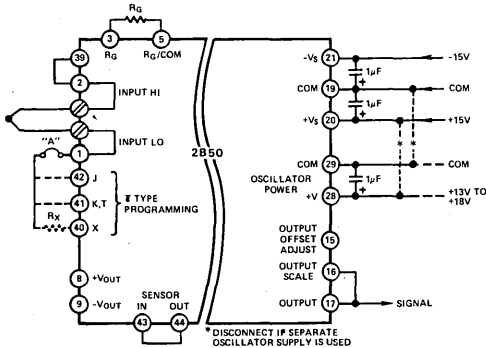

Figure 2. Basic 2B50 Application
The connections shown in Figure 2 are common to most applications using the 2B50, and, in many cases, will be all that is required.
Two sets of parallel thermocouple input connections are provided. The thermocouple input may be connected by screw terminals (Input +, Input -) or to terminal pins 1 (-) and 2 (+) in cases where thermocouples are to be remotely terminated. The following sections describe a basic thermocouple application, as well as detail some optional connections to enhance performance in more demanding applications. Jumper A (Figure 2) is used to disconnect cold junction compensation circuitry during offset adjustments.
The gain of the 2B50 is set by a user-supplied resistor ( $R_G$ ) connected as shown in Figure 2. Gain will normally be selected so that the maximum output of the signal source will result in a plus full scale output swing. The resistor value required is determined by the equation:  $R_G = 200k\Omega / (G - 1)$ .
2. Disconnect cold junction compensation circuitry by removing Jumper "A" (Figure 2).